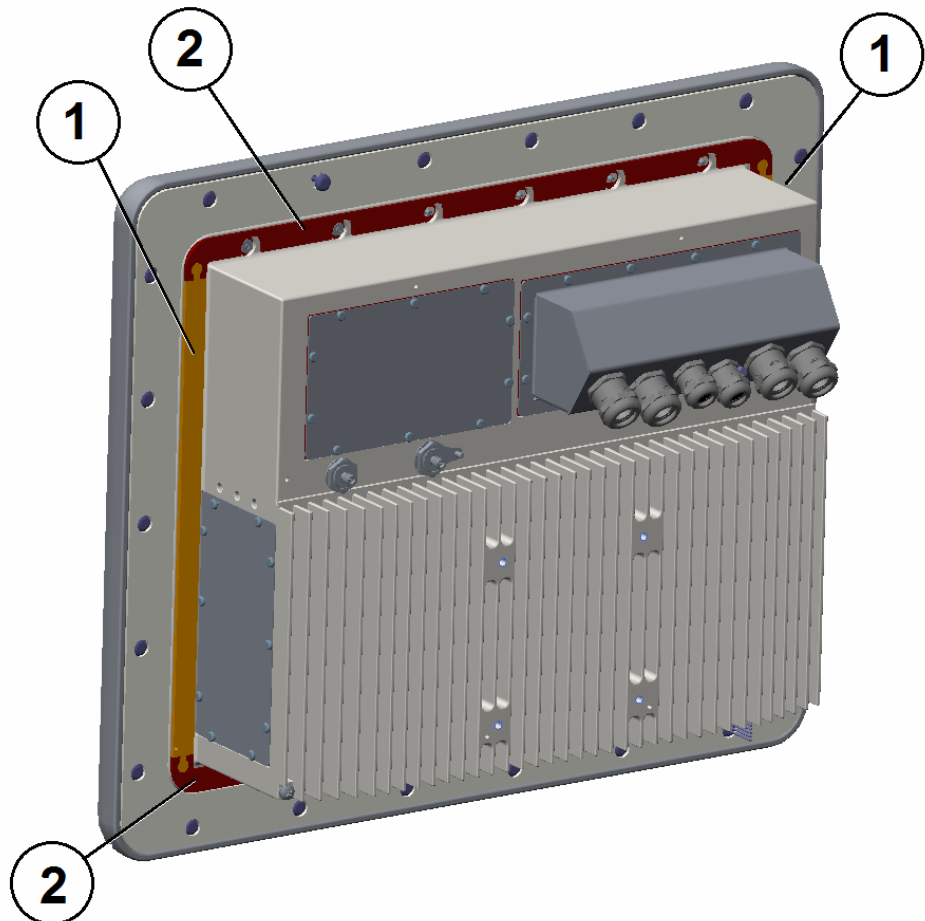

Figure 4.12 XT Unit Gasket
1. Install the gasket sections to the back of the XT unit, as shown in Figure 4.12. The top and bottom gaskets (item 2) are reversible, and the left and right gaskets (item 1) are reversible.